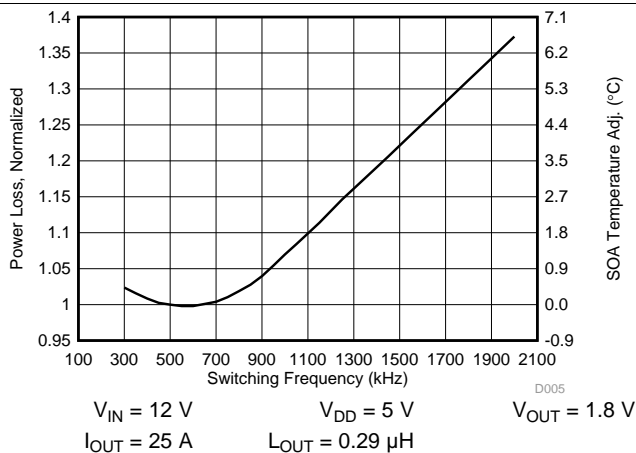

Figure 5. Normalized Power Loss vs Frequency
- Normalized power loss for switching frequency ≈ 1.02 (Figure 5)
- SOA adjustment for switching frequency $\approx 0.3^\circ\text{C}$ (Figure 5)